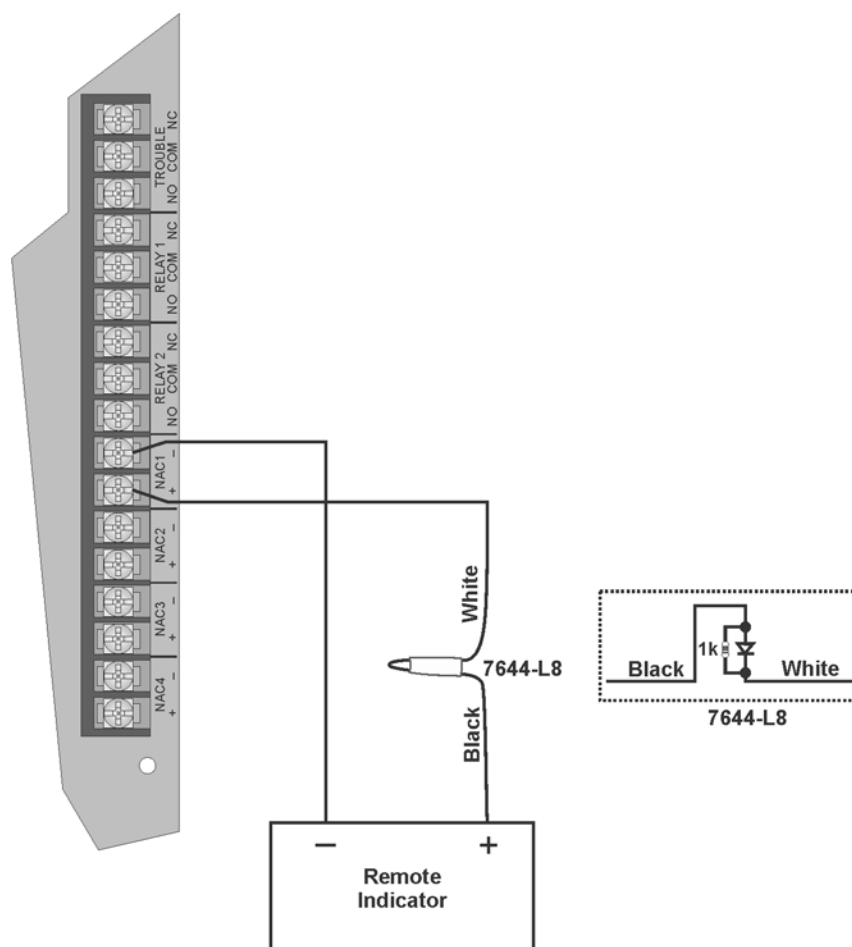

Figure 4-34 Polarity Reversal Connection Using the 7644-L8
1. Wire the 7644-L8 to the control panel as shown in Figure 4-34. Do not install an EOL resistor on the terminals of the NAC circuit used.